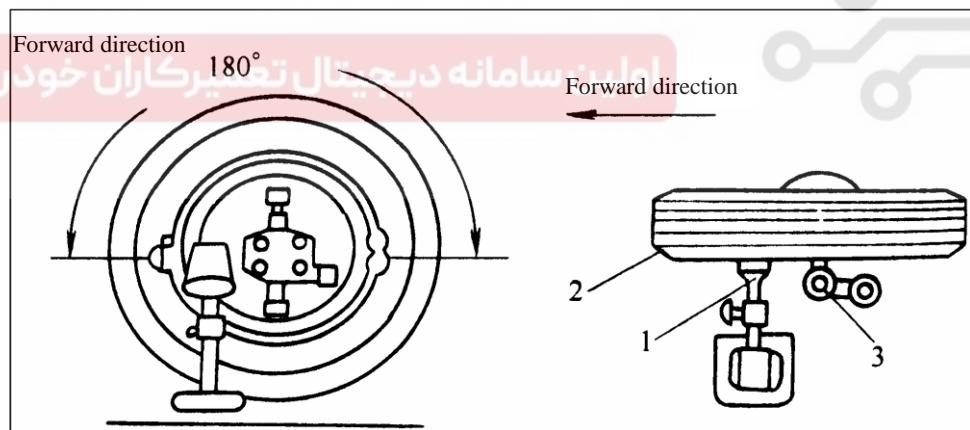

Figure 4-65 Installation Location of Sensing Head of Dynamic Balancer
- 7) Attach the driver head to polished place of brake backing plate edge, keep the head stay in the same level with rolling center wheel as much as possible, as shown in Figure 4-65.